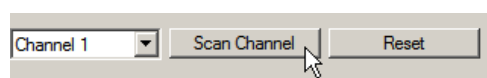

Figure 21: LINX Configurator software, scan DALI Channel.
2. Select the DALI channel and click on the **Scan Channel** button shown in Figure 21.